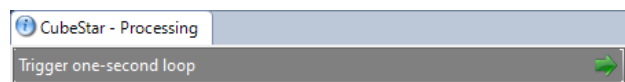

Figure 34 – CubeStar Trigger Tab
1. Navigate to the *CubeStar → CubeStar – Processing → Trigger one-second loop* tab, and send the telecommand by clicking on the  button as shown in Figure 34: